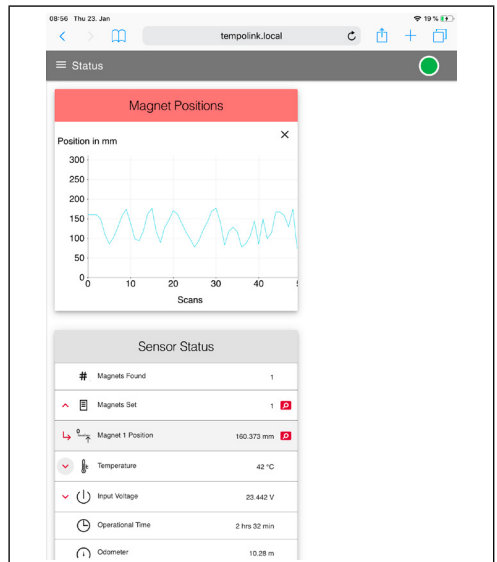

Fig. 21: Graphical display of position values
- **Magnets Set:** Number of set magnets. By clicking on the red arrow on the left the current position of the magnet is displayed. The magnifying glass on the right of the magnet is displayed. The magnifying glass on the right of the magnet provides a graphical display of the magnet's position. Note, that the output of the position values for the graphical display is slower than the output of the position values to the controller (Fig. 21).